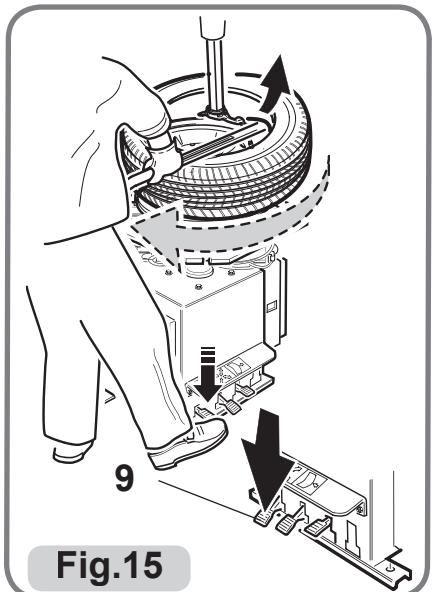

Fig.15
- Depress table top pedal (9 - Fig.15) to turn the table top clockwise. The upper bead will be automatically guided up and over the edge of the rim. Repeat the procedure for the bottom bead. Move the swing arm clear and remove the tire.